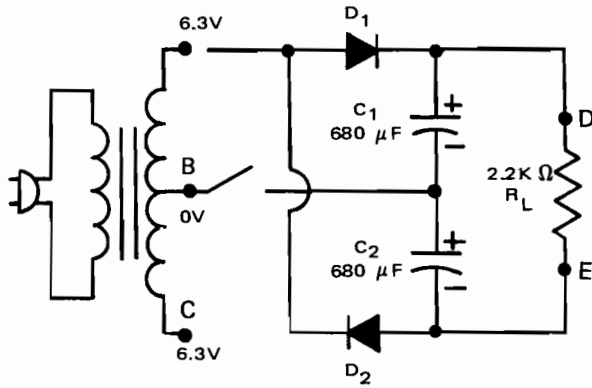

Fig. 15-5-2
9. Connect full-wave doubler as in Fig. 15-5-2.